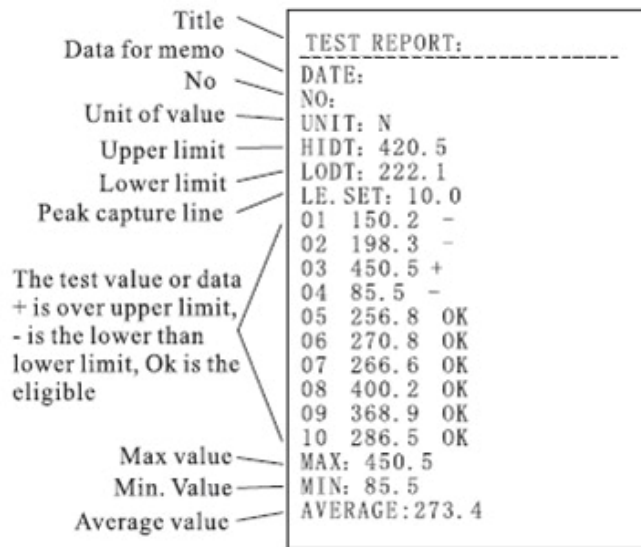

Fig.1
1. When RS-232C output is set at "Print", the print will flicker when "Print" is pressed and ten groups of data and analysis report will be printed. Please refer to Fig. 1.